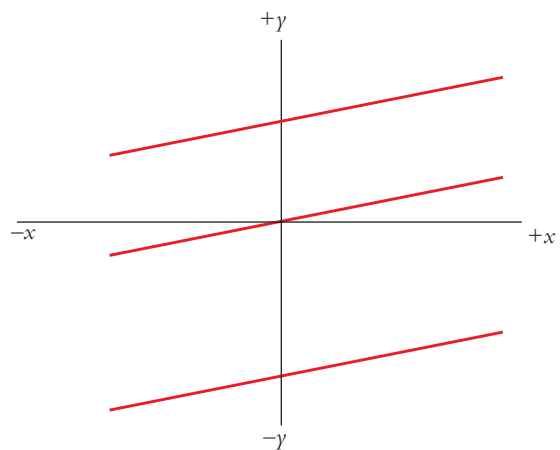

Figure 4.41 Three graphs with identical gradient
1. Look back at Exercise 4.57 and the piece of graph paper you used when you drew this out yourself. If you cannot find it, start again, and using a sheet of graph paper, draw two axes, x and y . Draw one line through the origin, one above it, cutting through the y axis in the positive region, and one below the x axis, cutting through the y axis in the negative region, as shown below in Figure 4.41.